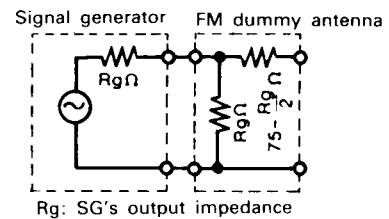

Fig. 13
6. FM dummy antenna shows Fig. 13